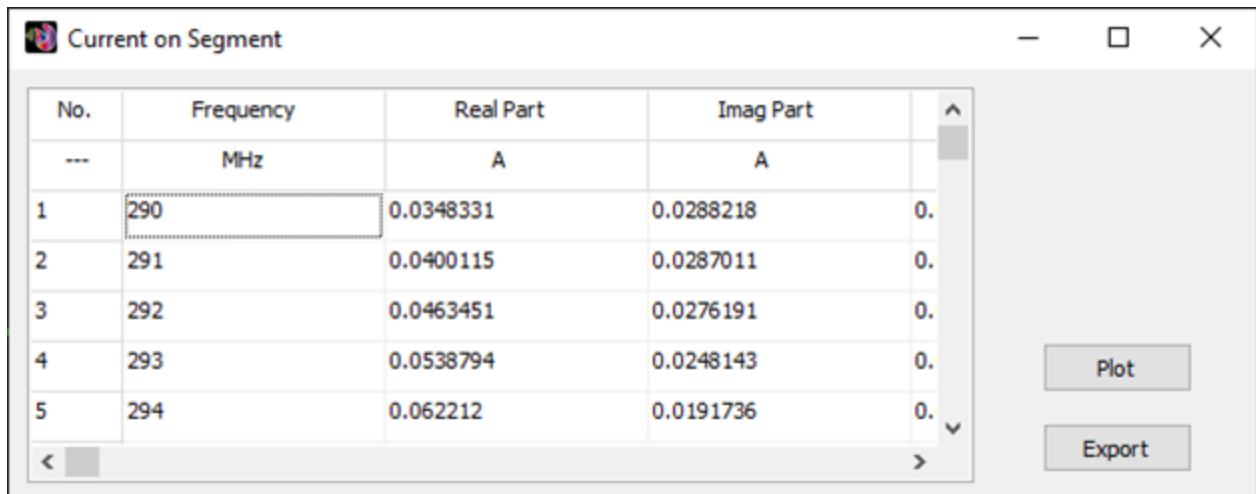

Fig. 2: The “Current on Segment” dialog box.
- **Current on Segment:** Opens a dialog box showing a frequency list of the current for the active segment. Click **Plot** to generate a frequency-domain graph of the current (**Fig. 2**).